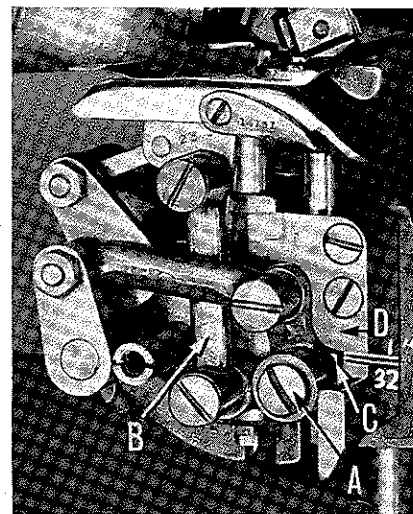

Fig. 9
To make this adjustment, loosen screw (A, Fig. 9) and, with the right hand, hold the feed plate against the presser foot. Then, by holding the feed link (B) with the left hand, push down the feed point until there is $1/32$ inch clearance between the block (C) and the plunger bearing block (D). Then, re-tighten screw (A).